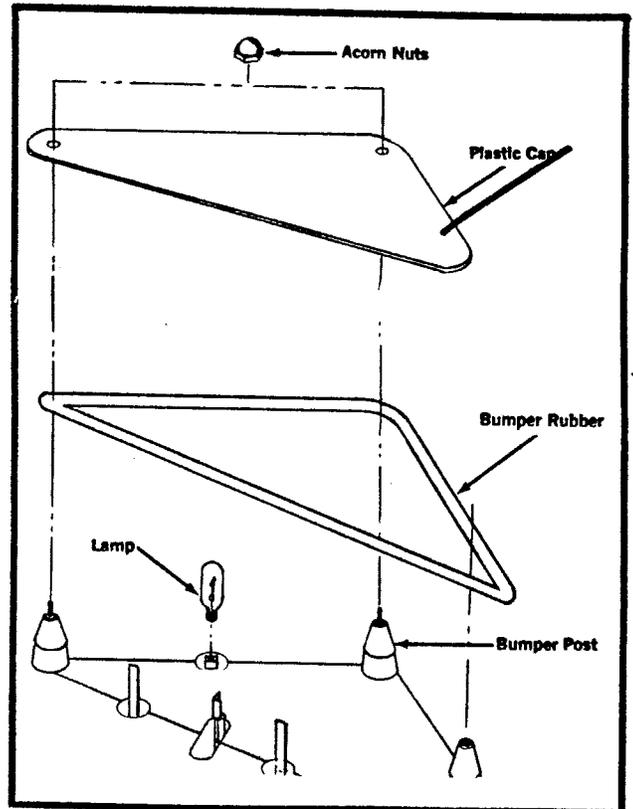

Fig. 9-36. Bumper rubber replacement. Do not overtighten the acorn nuts.
1. Remove the acorn nuts holding the plastic cap as shown in Fig. 9-36.
1. Remove the acorn nuts from the plastic cap covering the burned out lamp. Refer to Fig. 9-36.